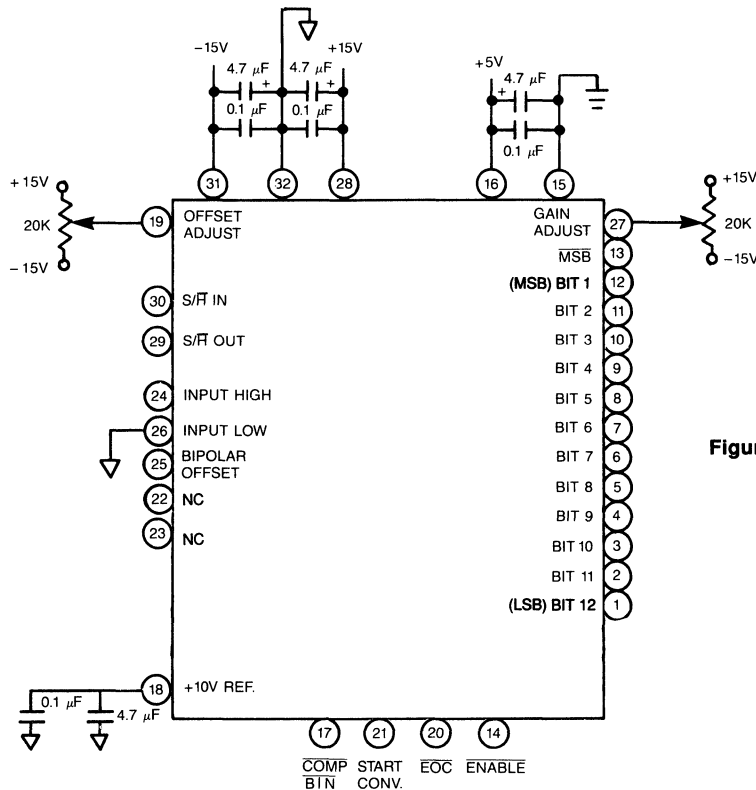

Figure 3. ADS-125, ADS-126 CALIBRATION CIRCUIT
- Connect the converter per Figure 3 and Table 2 for the appropriate full-scale range (FSR). Apply a pulse of 200 nanoseconds minimum to the START CONVERT input (pin 21) at a rate of 500 KHz. This rate chosen to reduce flicker if LED's are used on the outputs for calibration purposes.